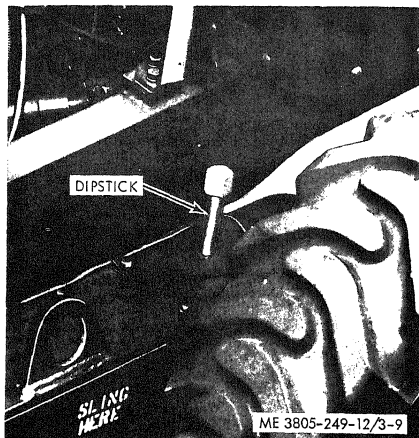

Figure 3-9. Tandem drive housing dipstick.
a. *Checking Oil Level.* Check the oil level in the tandem on both sides of the grader. Refer to figure 3-9. Add oil as necessary to maintain the level at the FULL mark on the dipstick.